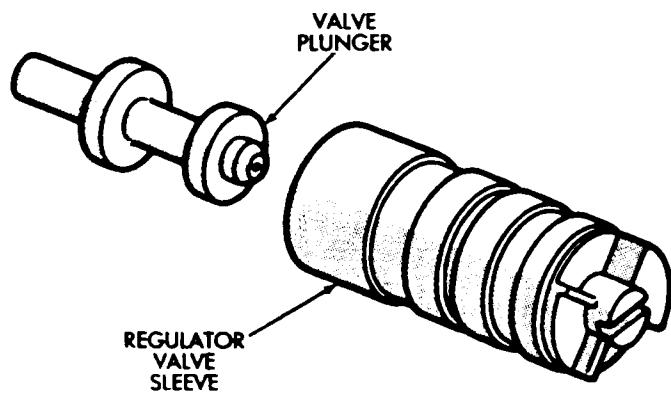

Fig. 8 Removing/Installing Regulator Valve Plunger
(6) Install primary regulator valve plunger in valve sleeve (Fig. 8).
(7) Install valve spring and regulator valve sleeve and plunger.